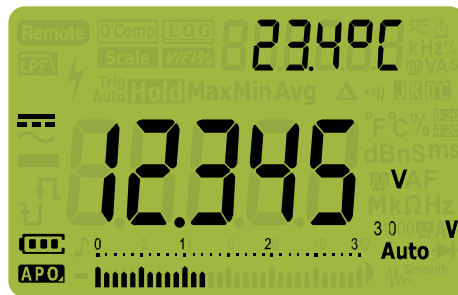

Figure 2-4 DC voltage display
- 1 To measure a DC voltage with your multimeter, rotate the rotary switch to $\overline{\sim}$ / $\overline{\sim}$ or $\overline{\sim}$ / $\overline{\sim}$ and set up your multimeter as shown in Figure 2-4.